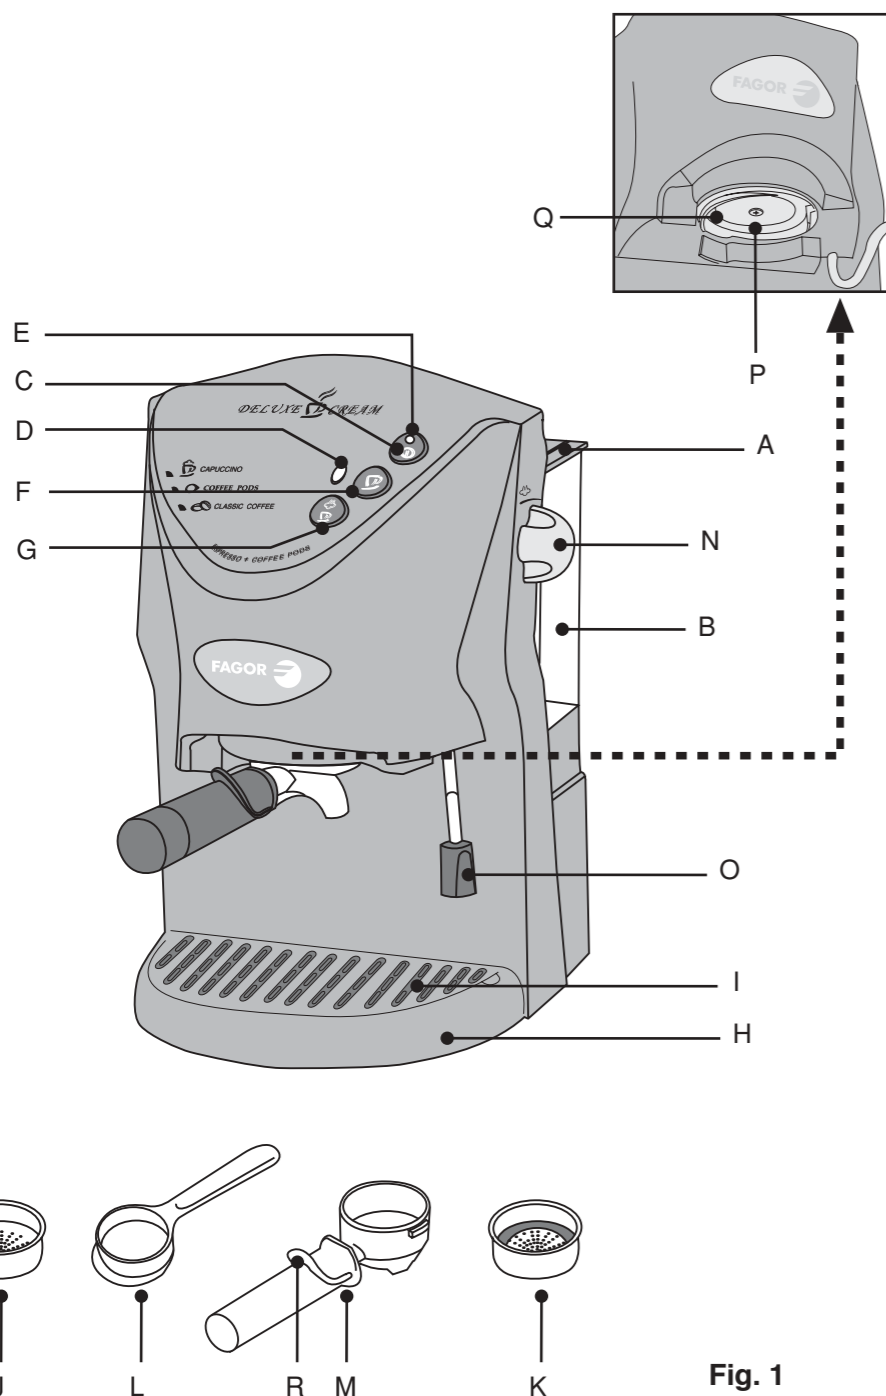

Fig. 1
2. PIEZAS DEL APARATO (FIG. 1)